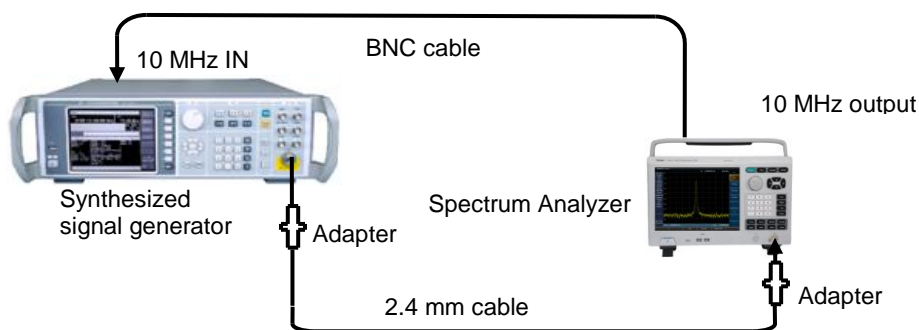

Fig 11-17 Input Attenuator Switching Uncertainty Testing Setup
- 1) Connect the test device according to Fig 11-17. The spectrum analyzer provides reference frequency for the